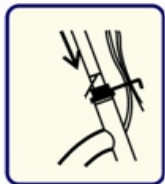

Fig 1
- Inserted depth of vertical tube of wheel should be not lower than minimum depth (red safety mark); safety mark must be inserted into below hexagonal nut. (See fig. 1)